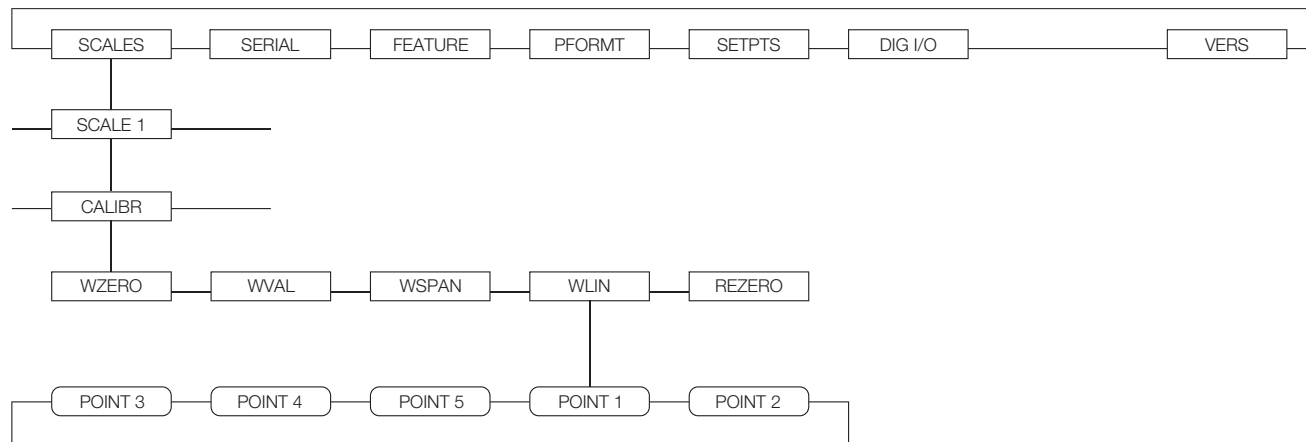
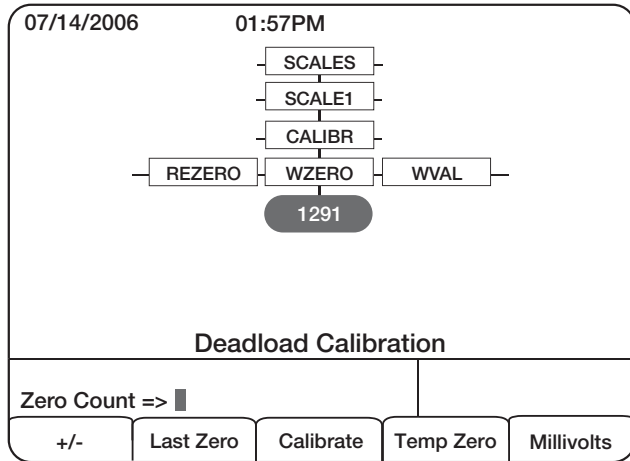

Figure 4-1. Calibration (CALIBR) Submenu
Figure 4-2. WZERO Calibration Display
The CALIBR submenu (under the SCALES menu, see Figure 4-2) is used to calibrate the 920i. The zero, span, and linear calibration point displays provide a set of softkeys used specifically for calibration procedures:
2. With the *SCALES* menu highlighted, press the **down** key, then select the scale to be calibrated. Press **down** again (*GRADS* parameter highlighted), then press **left** to highlight the *CALIBR* submenu (see Figure 4-1). Press **down** to go to zero calibration (*WZERO*). See Figure 4-2 on page 56.